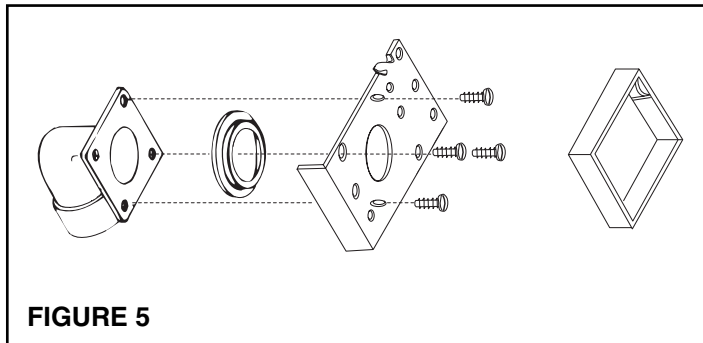

FIGURE 5
4. **Refer to Figure 5.** Remove cardboard from plaster guard frame. Using four (4) provided screws, attach the appropriate flanged fitting and inlet seal to back of inlet. (Model 361 for use with 360 inlets)